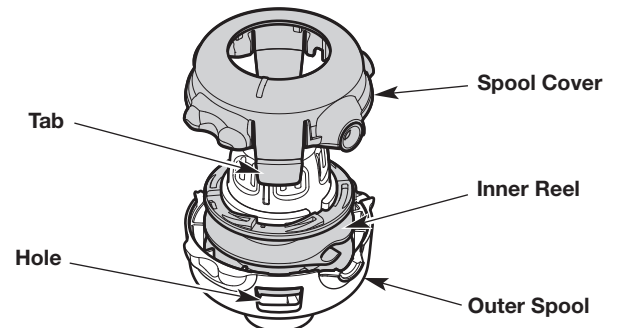

Fig. 27
- c. Gently tilt the screwdriver to unlock the tab from the hole (Fig. 27).
- e. Remove the spool cover (Fig. 27). **DO NOT** attempt to remove any other parts of the cutting head.
- g. Use a clean cloth to clean the inner reel, outer spool and spool cover (Fig. 27).
- h. Align the tabs on the spool cover with the holes on the outer spool (Fig. 27). Push the spool cover onto the outer spool until the tabs securely snap into the holes.